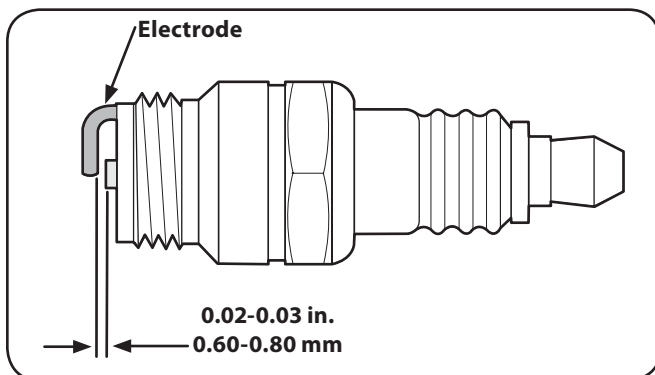

Figure 6-4
3. Measure the plug gap with a feeler gauge. Correct as necessary by bending side electrode. See Fig. 6-4. The gap should be set to 0.030 in.